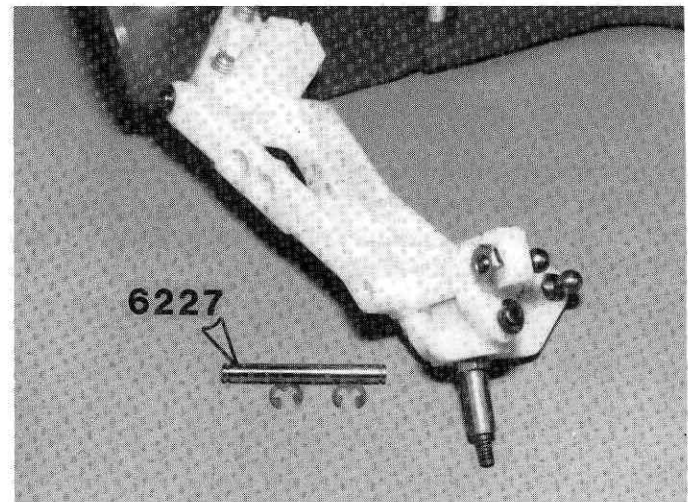

Fig. 13
□ **Fig. 13 - 13a** Line up the holes in the block carrier with the holes in the A-arm and push the #6227 outer pin into the arm. Install the "E" clips. Do the R.H. side.